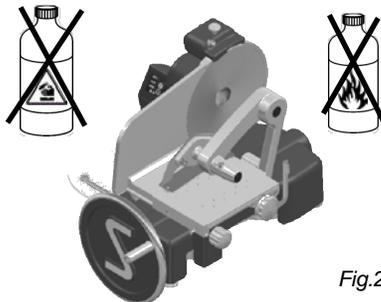

Fig.24
- Do not use corrosive or flammable substances to clean the slicer (Fig. 24); **use only the product supplied.**